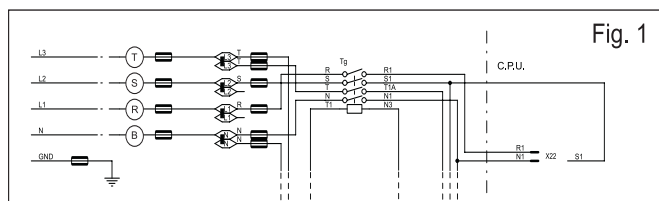

Fig. 1
- The machines are planned for these connections: normally Y (fig. 1).